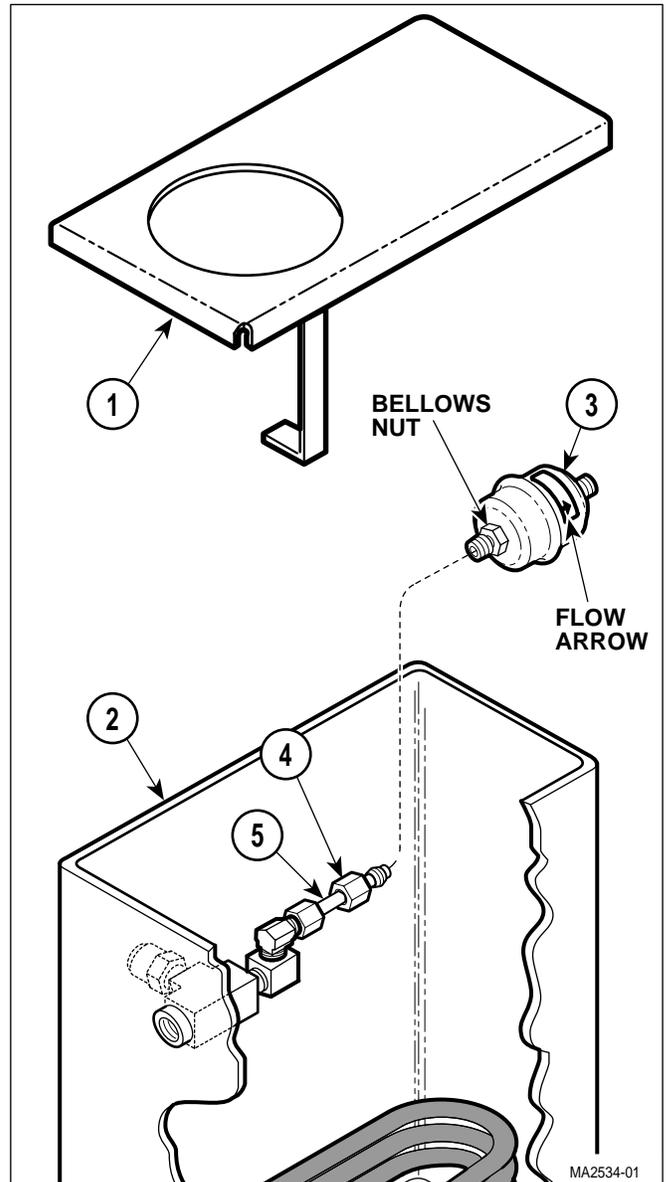

Figure 4-16. Bellows Assembly Removal / Installation
- (2) Remove tank cover (1, Figure 4-16) from tank assembly (2).
- (3) Using a wrench on bellows nut to hold bellows assembly (3) stationary, loosen and disconnect compression nut (4).
- (4) Remove bellows assembly (3) from tube (5).